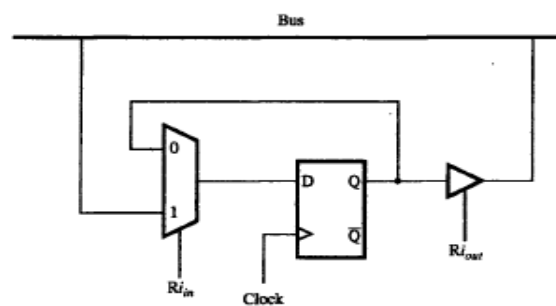

Figure 7.3 Input and output gating for one register bit.
- $R_{i\text{in}}=0$ \square mux feeds back the value currently stored in flip-flop (Figure 7.3).